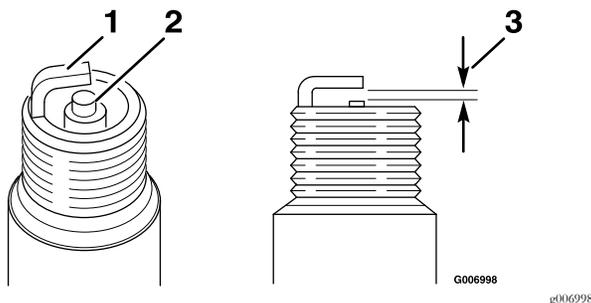

Figure 26
2. Disconnect the wire from the spark plug (see Figure 8 and Figure 26).
5. Set the gap on the plug to 0.030 inch (0.76 mm) (Figure 26).